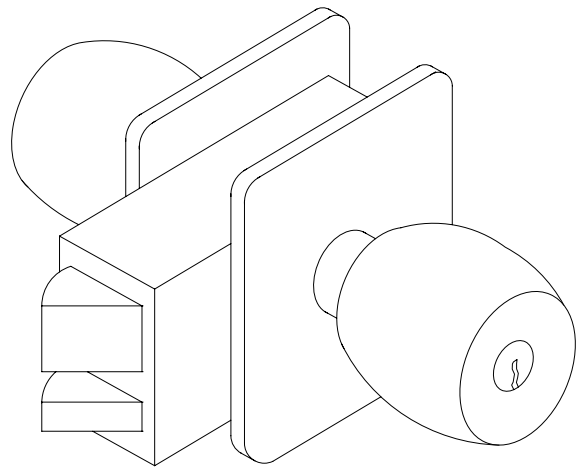

FIGURE 9f
5. Unit Locks, Figure 9f, have all parts factory pre-assembled as a unit. They are thru bolted in a rectangular notch cut in the door edge and require little or no disassembly.